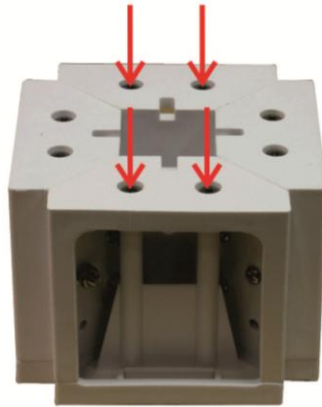

Fig. 2
1. Remove the four screws as shown in figure 2.